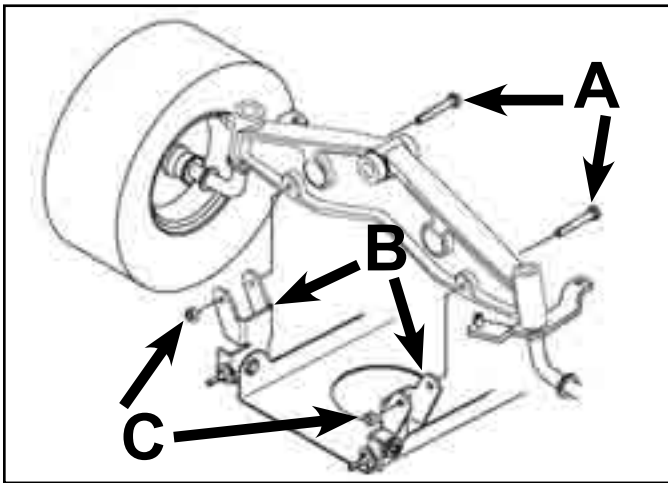

Fig A6 009 fig. 37 m-4630
3. Install the mower belt onto the lower engine pulley (Fig. A6 008).
- Install the mower pivot mount brackets onto the front axle with the bolts and locknuts (Fig. A6 009).